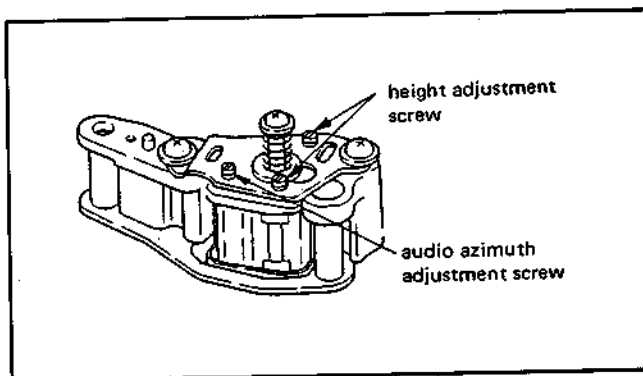
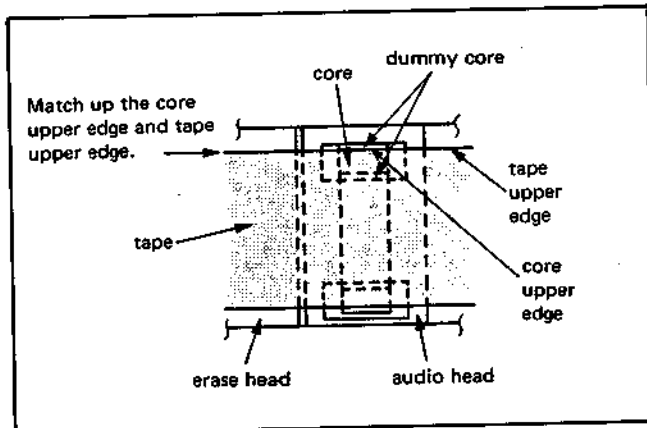

Fig. 4-30
Fig. 4-31
- 5) While observing the audio head (Fig. 4-30) with a dental mirror, match up the core upper edge and tape upper edge as in Fig. 4-31, with the two height adjustment screws and the azimuth adjustment screw.